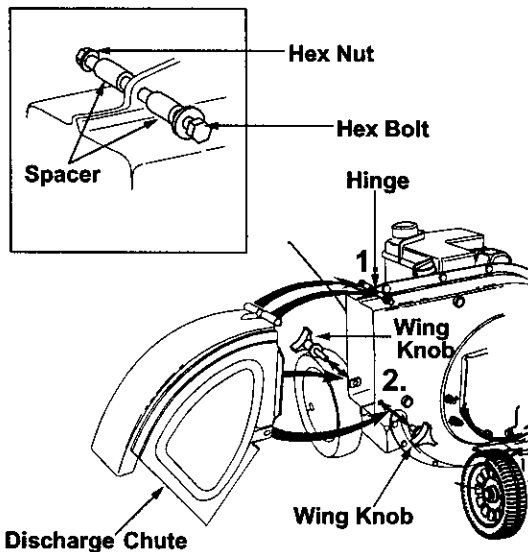

Figure 3
- Remove the wing knobs from each side of the discharge opening on the chipper-shredder. See figure 3.
through hinge on discharge chute and housing (spacer fits inside of hinge). See figure 3 inset.